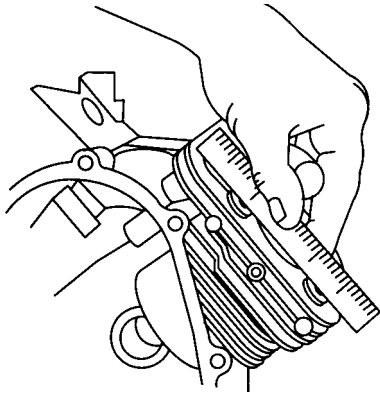

Fig. 1 - Checking Cylinder
1. Check cylinder head mounting surface for distortion with a straight edge, Fig. 1.